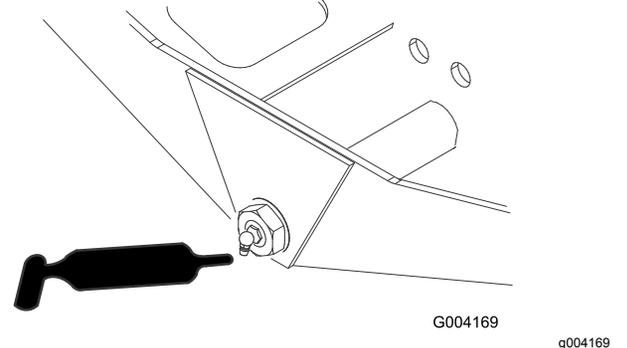

Figure 80
- Axle-steering pivot (1) (Figure 80)